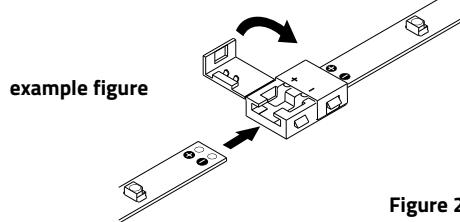

Figure 2
2. Open the shutter of the direct / in-feed connector (Fig. 2+3).
3. Connect the in-feed connector to the end of the VARDIFLEX LED strip (observe polarity) and close the fastener (Fig. 2+3).